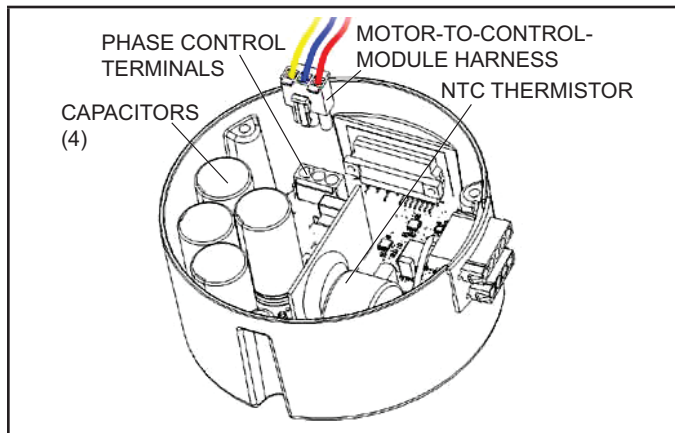

FIGURE 3
- 6 - Disconnect the three-wire motor-to-control-module harness (see Figure 3). If control module side terminals are damaged, replace the control module. If terminals are not damaged, move to Step 7.